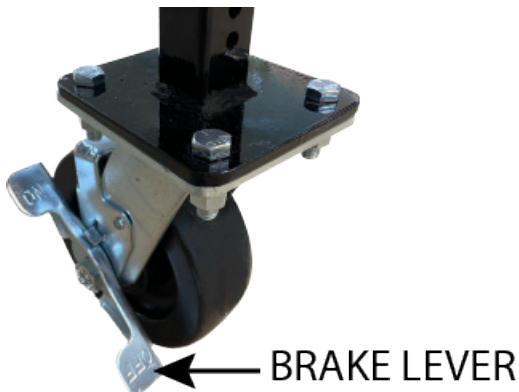

Figure 1: Swivel Caster with Lock
1. Identify the brake levers, located on the sides of the swivel casters. The brake lever will have markings indicating which end to press to turn the brakes "ON" or "OFF". (Figure 1)